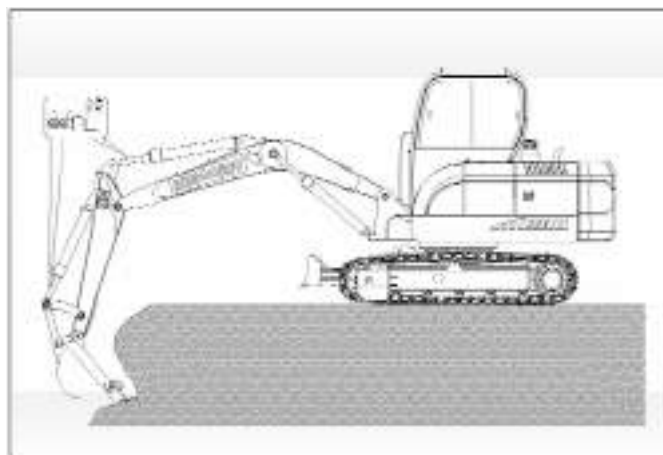

Fig 3—45
6. When there is resistance when the bucket works, do not swing the machine or walks (Fig 3—46)。